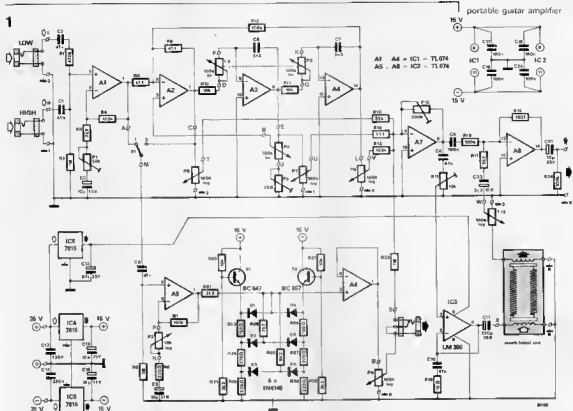

Figure 1. Circuit diagram of the pre-amplifier.
The VCF is a simplified version of that used in the Formant synthesizer (see *Elektron (UK)* December 1977, page 12-27). It is built from opamps A2, A3 and A4 as shown in figure 1, which function as high pass, band pass, and low pass filter respectively. Stereo potentiometer P3 enables the setting of a specific turnover point, that is, the centre frequency of the band pass filter.
Unlike many other guitar amplifiers, the present one allows the continuous mixing of the original and overdriven sounds: this may be arranged by a foot switch connected to jack socket S (see figure 1). If only the overdriven sound is wanted, potentiometers P6...P8 must be turned off completely (wipers at earth).